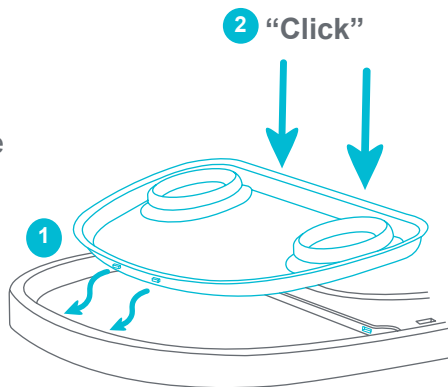

Fig. 9a
- 9 • (1) Align the tabs and feed them through the holes on the top tray. (2) Press on the back of the insert to make the insert click into place (Fig. 9a)